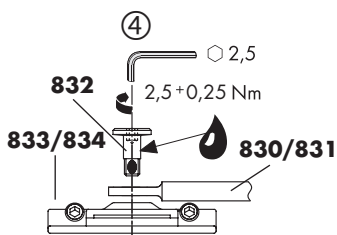

Fig. 4
- ④ Secure connecting rod on cushioning (**830/831**) on to top hinge block (**833/834**) using locking screw M4 (**832**) (see Fig. 4) (torque $2.5 + 0.25$ Nm)